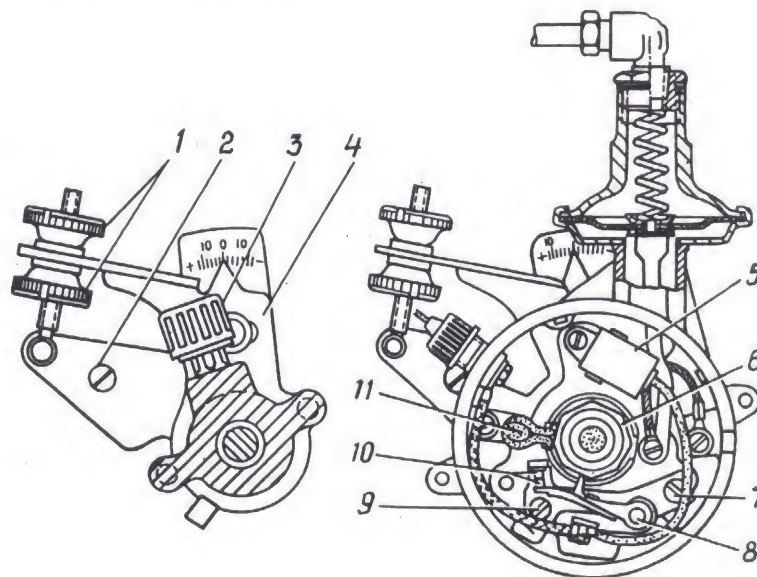

FIG. 85. IGNITION DISTRIBUTOR
Before checking the breaker point gap, crank the engine crankshaft with the crank handle so as to set the breaker cam into the position of maximum separation of breaker points. To change the gap, loosen screw 9 (Fig. 85) that secures the plate with the breaker fixed point and adjust the required gap by turning screw 7 and using a feeler gauge. After adjustment, tighten up screw 9.
3. Use nuts 1 (Fig. 85) to turn the distributor body so that octane selector pointer 4 is against zero.